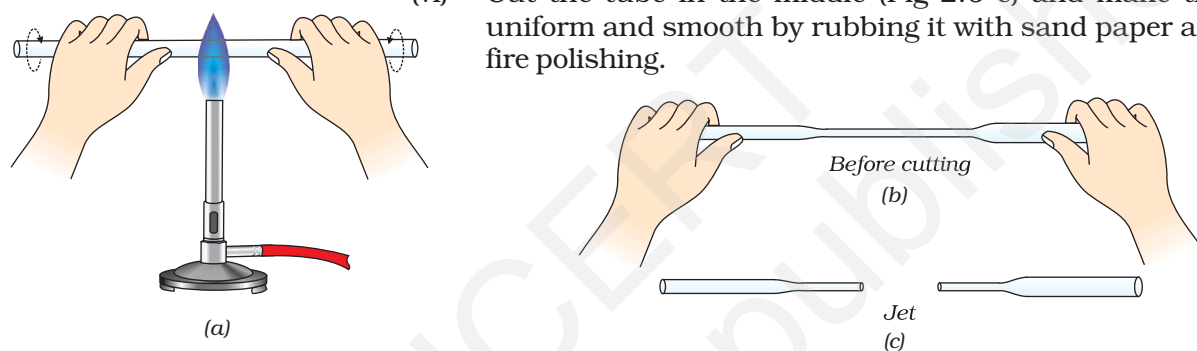

Fig. 2.6 : (a) Heating the tube to draw a jet (b) Before cutting (c) After cutting
- (v) Remove the tube from the flame and pull the ends apart slowly and smoothly until it becomes narrow in the middle and then stretches into a fine jet as shown in Fig. 2.6 b.
- (vi) Cut the tube in the middle (Fig 2.6 c) and make the jet uniform and smooth by rubbing it with sand paper and by fire polishing.